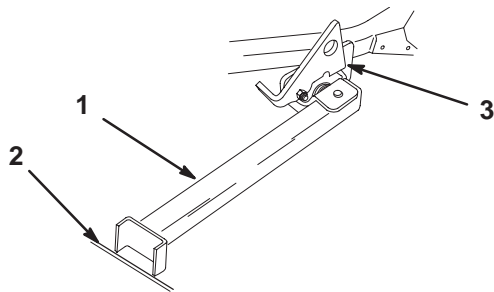

Figure 27
4. Set foot of stand on the ground and rest latch on pivot tab (Fig. 27).
Note: For best results, place foot of stand into seams in sidewalks or into turf (Fig. 27).
6. Drive onto stand. Stop when latch drops over tab into locked position (Fig. 27). Once onto stand, engage parking brake. Shut off engine.